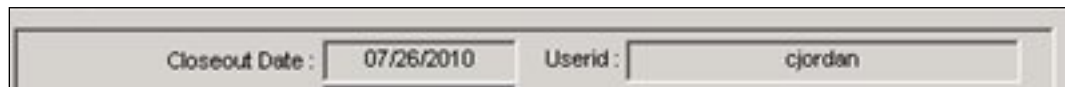

Figure 13-15: Closeout Date and User id Fields
19. Click the OK button. On the top right part of the Disaster Closeout tab, the system fills in the Closeout Date and Userid fields (Figure 13-15).